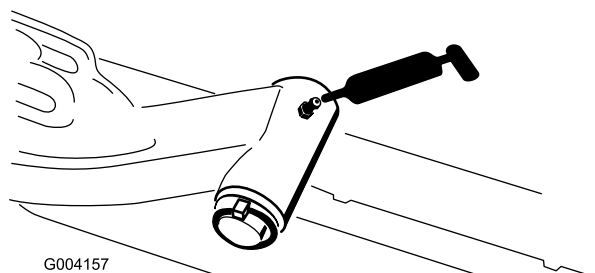

Figure 32
- Lift-arm pivot shaft (1 each) (Figure 32)